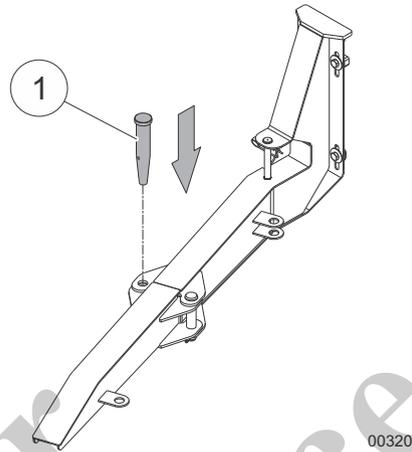

Fig. 140 Bolting the ramp
16 | Insert and secure the bolt (1) in Fig. 140 on the ramp.